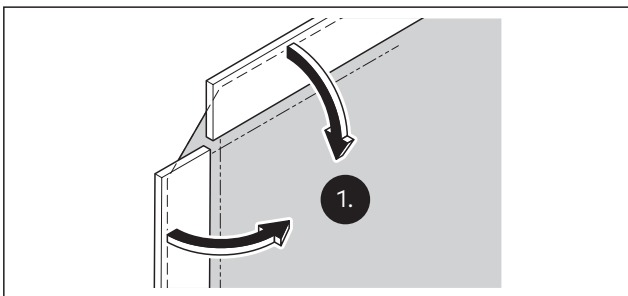

Fig. 37 Completely fold in the circumferentially sewn rubber piping inwards
1. Completely fold in the circumferentially sewn rubber piping inwards(Fig. 37).